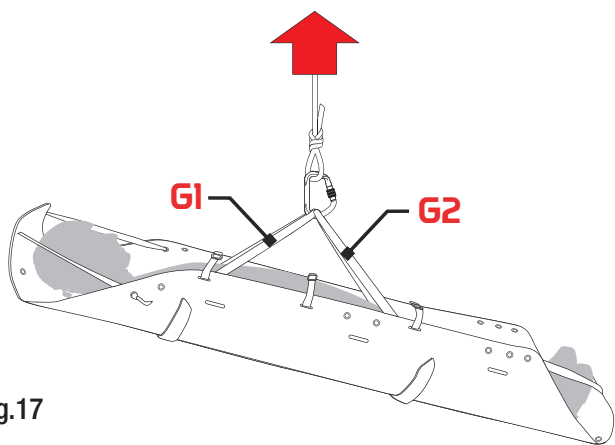

Fig.17
- **Lifting and lowering with rescue devices (fig. 17)**
- **Hoisting and lowering with helicopters (fig. 17)**